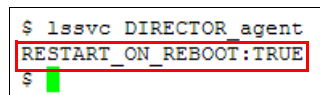

Figure 10-82 Agent startup setting check step
1. Check the auto start setting of the Common Agent file set by using the `lssvc DIRECTOR_agent` command, as shown in Figure 10-82.